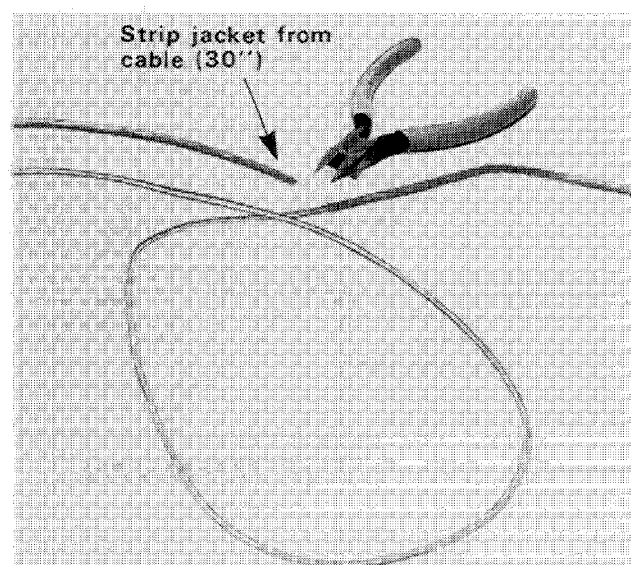

Figure 3.36 — Removing Cable Jacket
- **Step No. 1** — At the Wiring Arm end of the cable, strip and remove about 30 inches of the cable jacket. Be careful not to cut the shield. (Refer to Figure 3.36.)